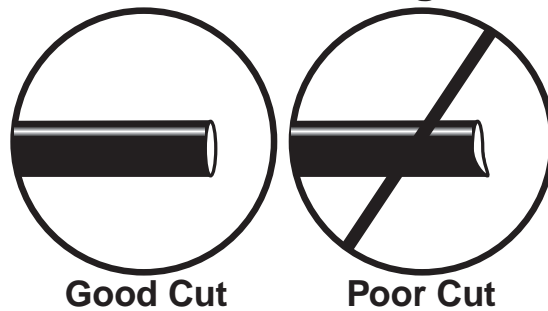

fig. 5
2. Attach the lower bracket to the air springs with the two 3/8”-16x7/8” bolts, lock washers, and flat washers (Fig. 5).